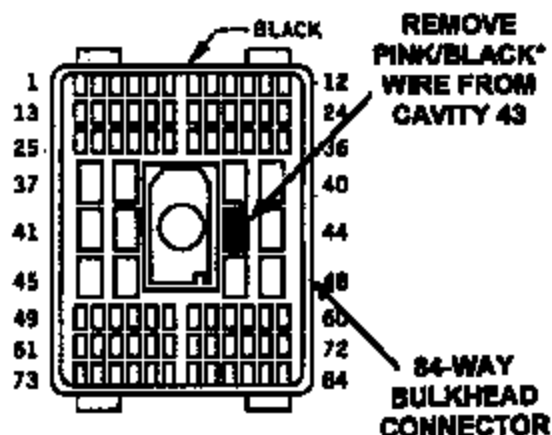
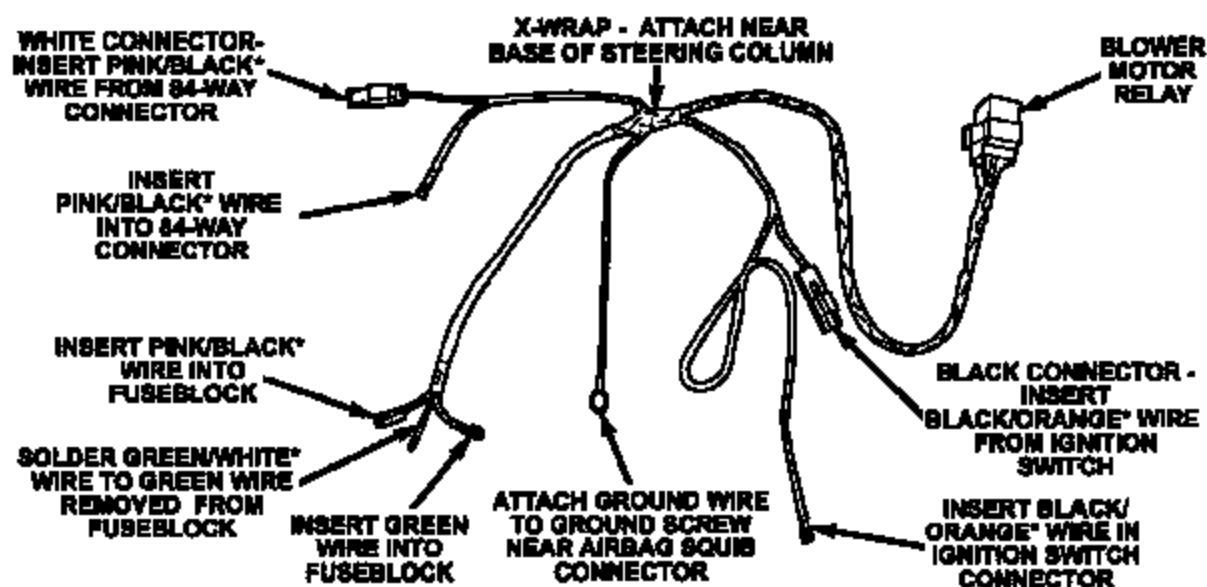

Figure 14
Figure 16
8. Remove the PINK with BLACK tracer (A2) wire from cavity 43 of the 84-way bulkhead connector (Figure 14).
11. Install the supplied blower relay wiring harness so that the X-wrap is located near the base of the steering column (Figure 16). Secure the harness with a tie strap.
12. Install the PINK with BLACK tracer blower relay harness wire (with a blade terminal) into cavity 43 of the 84-way connector (Figure 14 and Figure 16).
16. Disconnect the WHITE electrical connector on the blower relay harness. Install the PINK with BLACK tracer wire that was removed from the 84-way connector into the WHITE connector opening (Figure 16). Reconnect the WHITE connector. Secure the connector near the bulkhead connector with a tie strap.
17. Install the BLACK with ORANGE tracer blower relay harness wire into cavity 5 of the 7-way ignition switch connector (Figure 16).
18. Disconnect the BLACK 2-way electrical connector on the blower relay harness (Figure 16). Remove the BLUE wedge and then install the BLACK with ORANGE tracer wire that was removed from the ignition switch connector into cavity 2 of the BLACK connector. Install the wedge and reconnect the BLACK 2-way connector. Secure the connector and any excess wiring near the base of the steering column with a tie strap.
20. Strip about 1" of wire insulation from the end of the DARK GREEN with WHITE blower relay harness wire (Figure 16).
25. Install the DARK GREEN blower relay harness wire into cavity 12 of the fuseblock (Figure 16).
26. Install the PINK with BLACK tracer blower relay harness wire into cavity 11 of the fuseblock (Figure 16).